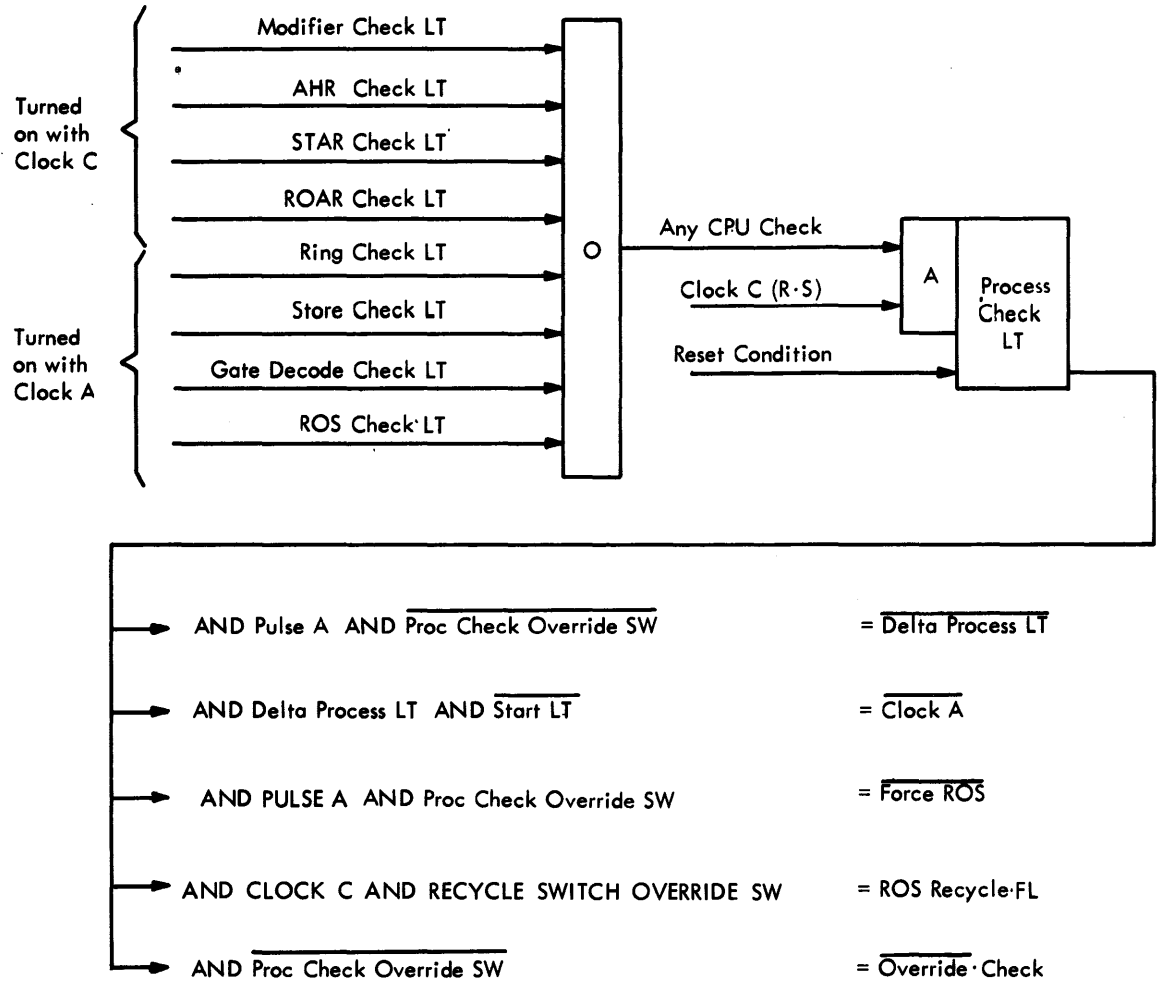

Figure 3-44 Process Check Latch
The Process Check latch can be turned on by seven other error conditions. When the Process Check latch is turned on it stops the CPU immediately (before the next ROS cycle starts) (Figure 3-44).
The Process Check latch can be turned on by seven other error conditions. When the Process Check latch is turned on, it stops the CPU immediately (before the next ROS cycle starts) (Figure 3-44).
(before the next ROS cycle starts) (Figure 3-44). The Gate Decode Check latch is reset with Reset Condition (which is present when the Reset Key is pressed).
- The eight CPU checks are ORed to stop the CPU at the end of the cycle in which any hardware check occurs (Figure 3-44).
Figure 3-44 shows the Process check circuits and the signals and latches which are dependent upon the Process Check latch being on.